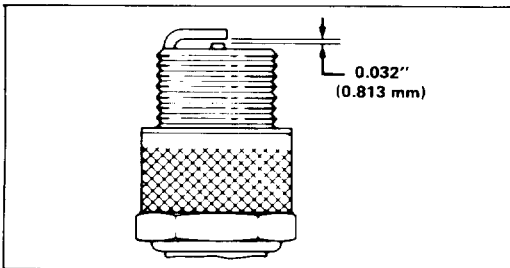

Figure 17
3. **INSTALL SPARK PLUG** – Set air gap (Fig. 17) between electrodes at .032" (.81 mm). Install plug and tighten to 15 ft-lb (20.4 N.m). If torque wrench is not used, tighten plug firmly. Push wire onto spark plug and reinstall control panel.